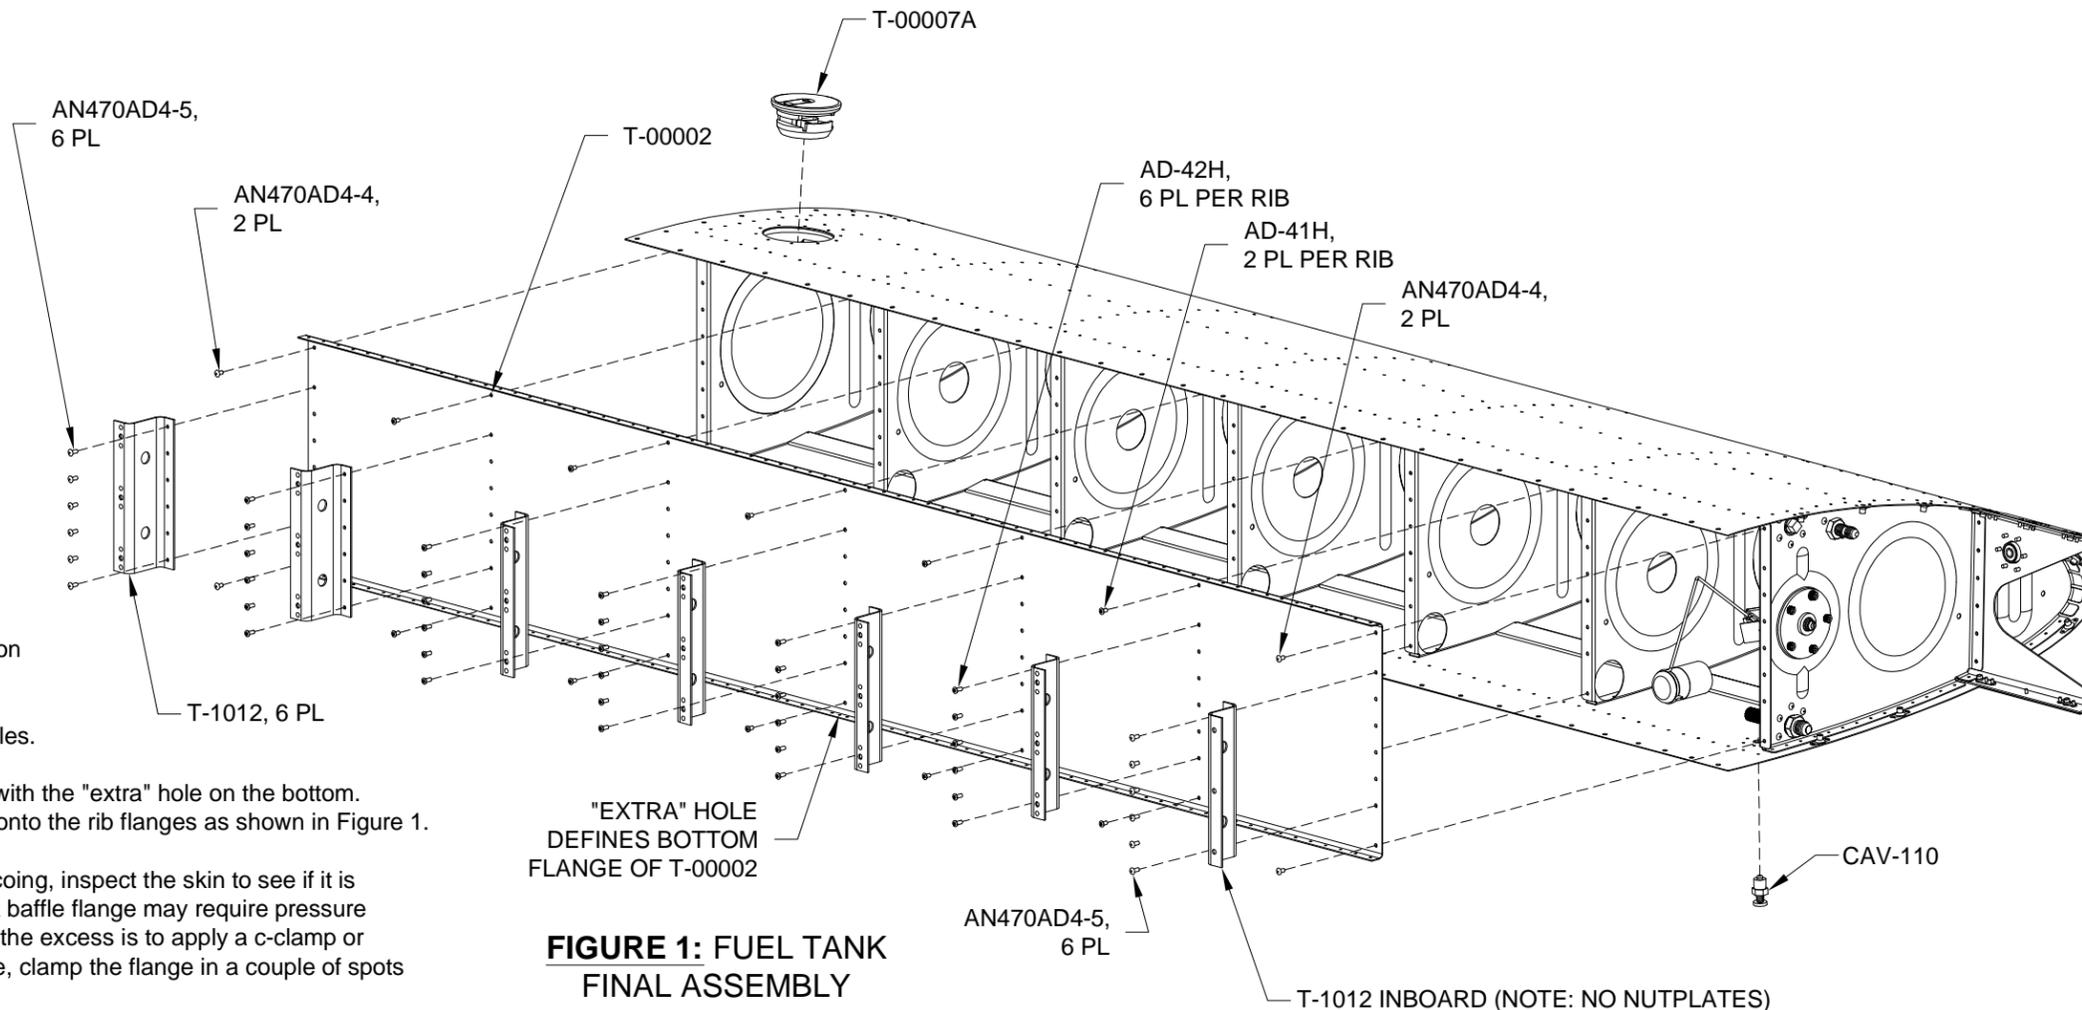

FIGURE 1: FUEL TANK FINAL ASSEMBLY
Install the tank attach zee to tank baffle to rib flange rivets as shown in Figure 1. Twirl the closed-end blind rivets in sealant just before installation. The solid rivets that are installed through the end ribs need not be twirled in sealant.
Step 4: Install rivets attaching the T-00001-L Fuel Tank Skin to T-00002 Tank Baffle in all skin holes that have been countersunk. See Page 18-04, Figure 1 for rivet call-outs. After sealant has cured, machine countersink the remaining skin holes and install rivets.
Step 5: Install the T-00007A Fuel Cap and CAV-110 Drain Fitting as shown in Figure 1. Seal the Drain Fitting with a fuel compatible thread sealant. (Fuse Lube, Loctite, etc...).